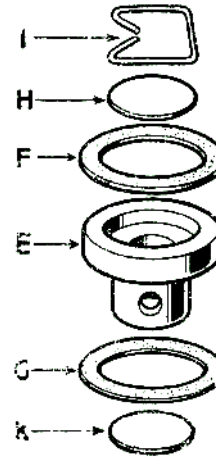

Fig. M-13—
**Valve cage** (See Fig. M-13)
2. The delivery valve (H) and suction valve (K) should both be fitted with the smooth side downwards.
3. Care should be taken that the valve retaining clip (I) in the valve cage (E) is located correctly in its groove.